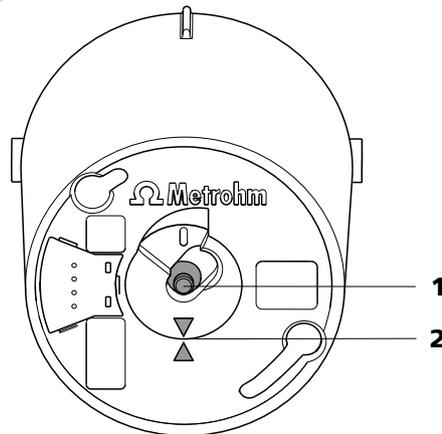

Figure 14 807 Dosing Unit from above
- If necessary, rotate the centering tube(14-1) by hand until they are in the correct position (see figure 14, page 22).